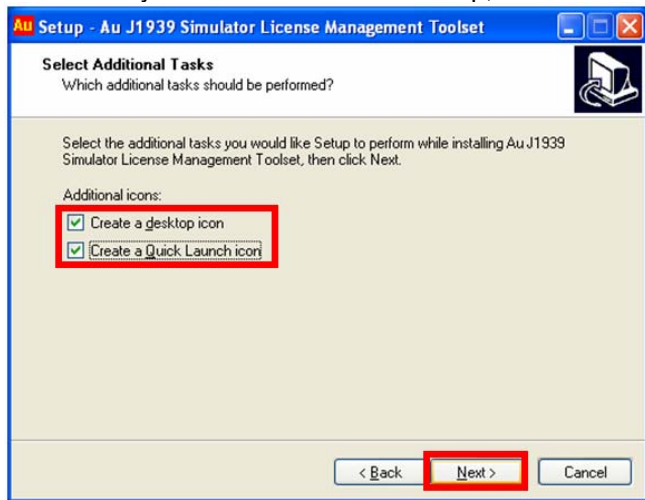

Figure C-6
6. "Select Additional Task" window shows up, check both "create a desktop icon" and "Create a quick launch icon", then click "next" (Figure C-6)